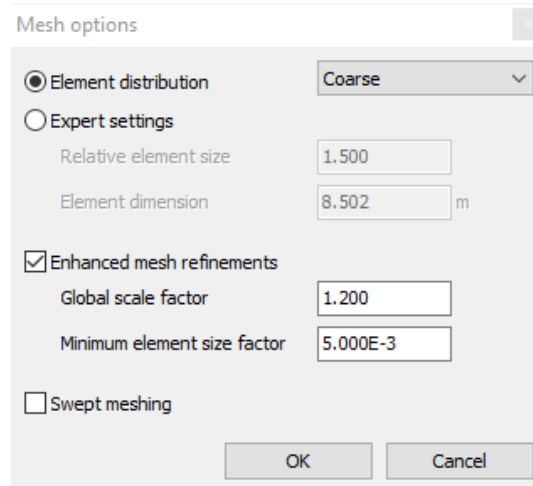

Figure 1-12: Mesh options window
- 4 Change the **Element distribution** to **Coarse** in the **Mesh options** window as displayed on Figure 1-12 \(p. 20\).